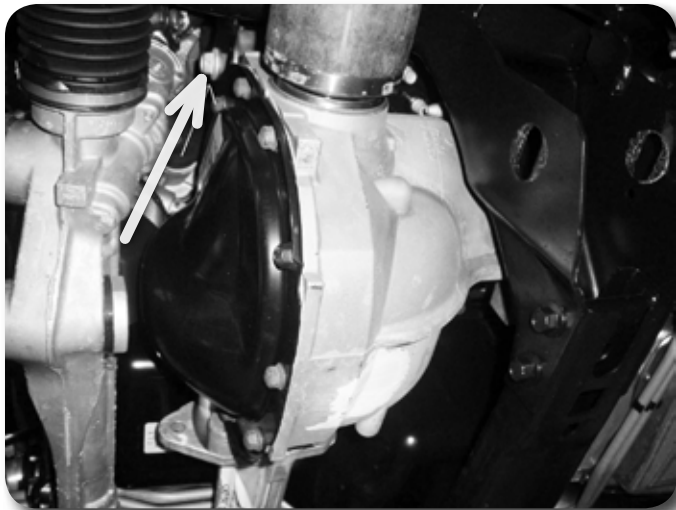

Figure 15
26. Support the front differential with an appropriate jack. Loosen all of the hardware and slide the differential all the way to the passenger's side. Orientate the joint at the steering rack so there is the most possible clearance to remove the front driver's side bolt. Remove this bolt first. Disconnect the differential breather hose from the differential housing. Remove the rear driver's side and one passenger's side differential mounting bolts **Figure 15 / 16 / 17** and remove the differential from the vehicle.